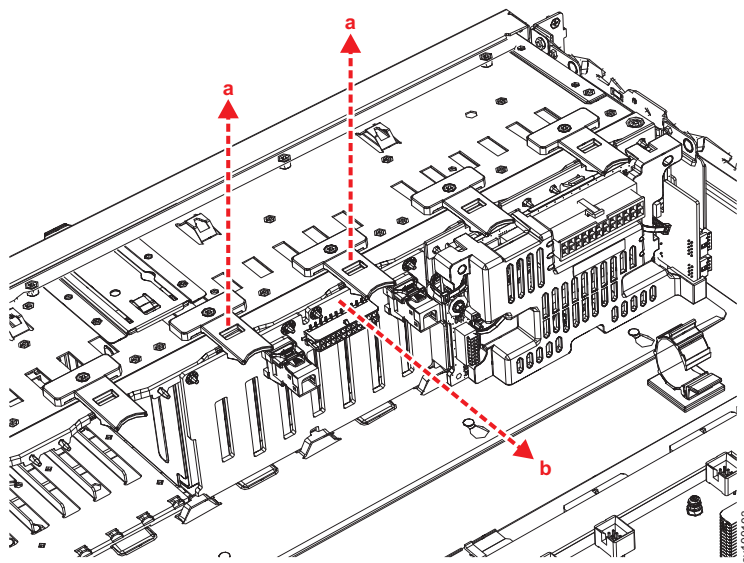

Figure 133. Removing the 2145-SV1 SATA drive backplane
8. Lift the two front tabs and rotate the backplane assembly toward the rear of the node to remove it, as shown in Figure 133 on page 158.